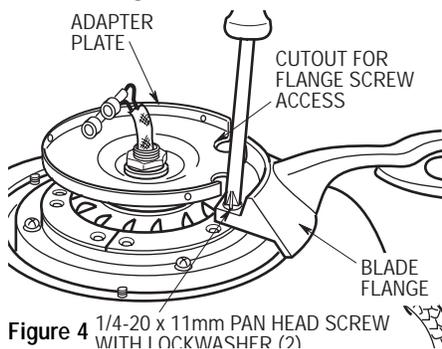

Figure 4 1/4-20 x 11mm PAN HEAD SCREW WITH LOCKWASHER (2) 6
- 6. Align two of the threaded holes in the motor with the two cutouts in the adapter plate (Figure 4). Position the blade flange on the motor hub so that the screws in the blade flange align with the two threaded holes in the motor hub. Tighten the two screws securely. Repeat this procedure for the remaining four blade assemblies.